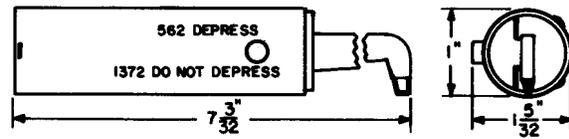

Fig. 5—369B Testing Tool
2.05 **369B:** The 369B testing tool (Fig. 5) is used for testing the bridge cut-off winding of the "B" relay which is associated with the primary line switch in the step-by-step dial systems. This tool replaces the 343 and 369 tools.